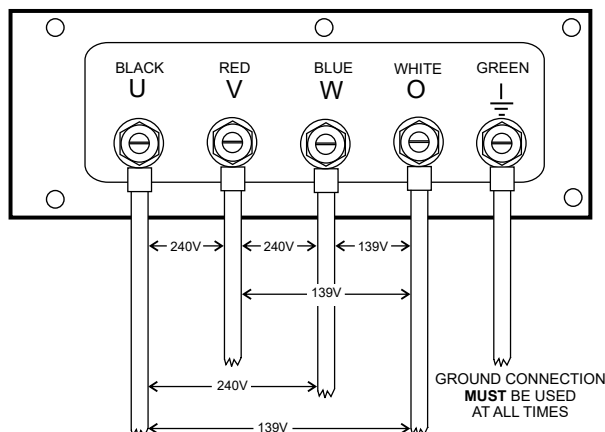

Figure 15. UVWO Terminal Lugs
3. Connect the load wires to the **UVWO terminal lugs** as shown in Figure 15.